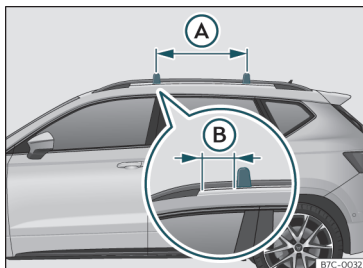

Fig. 147 Attachment points for the roof railings for the roof carrier system.
The crossbars are assembled on the roof railings. The distance between crossbars >>> **Fig. 147** (A) should be between 70 and 90